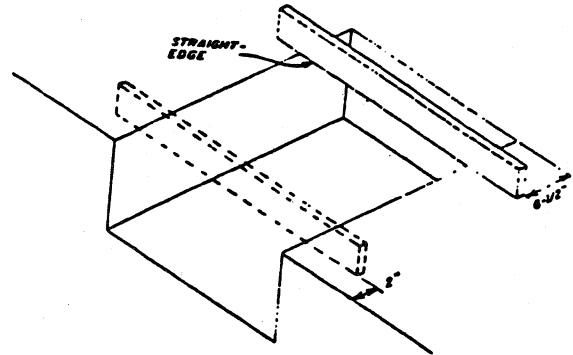

Figure 3
3. Refer to Figure 3 and use the following method to measure pit depth at specific load-bearing points:
- b. Measure down from the bottom of the straight-edge to the bottom of the pit at two (2) rear corner load-bearing points.
- c. Move the straight-edge 2" from the front of pit and take a measurement for the two (2) front load bearing points.